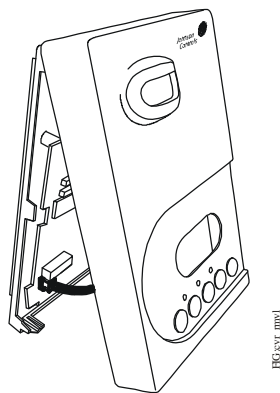

Figure 1: Removing the Thermostat Controller Cover (T60xDFH-4+PIR Model Shown)
2. Pull the bottom edge of the thermostat controller cover and open the thermostat controller as illustrated in Figure 1.